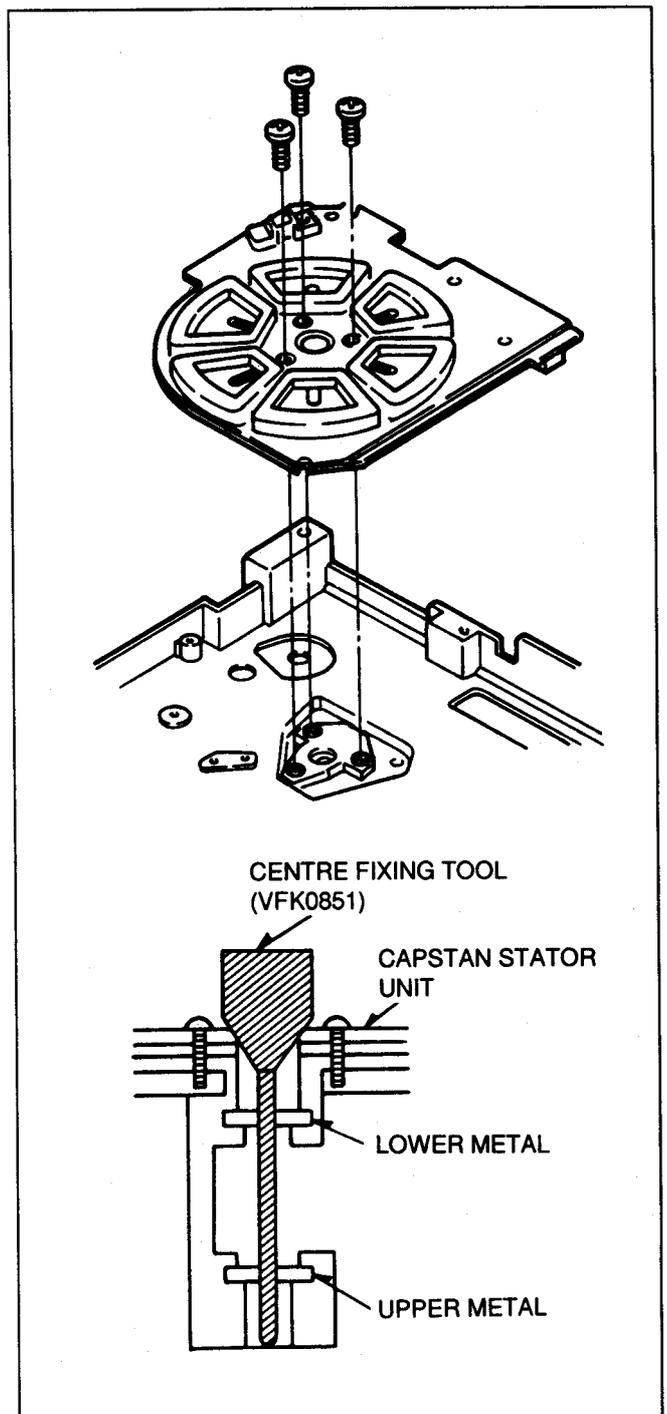

Fig. S4
- 3) Insert the CENTRE FIXING TOOL (VFK0851) as shown in Fig. S4.